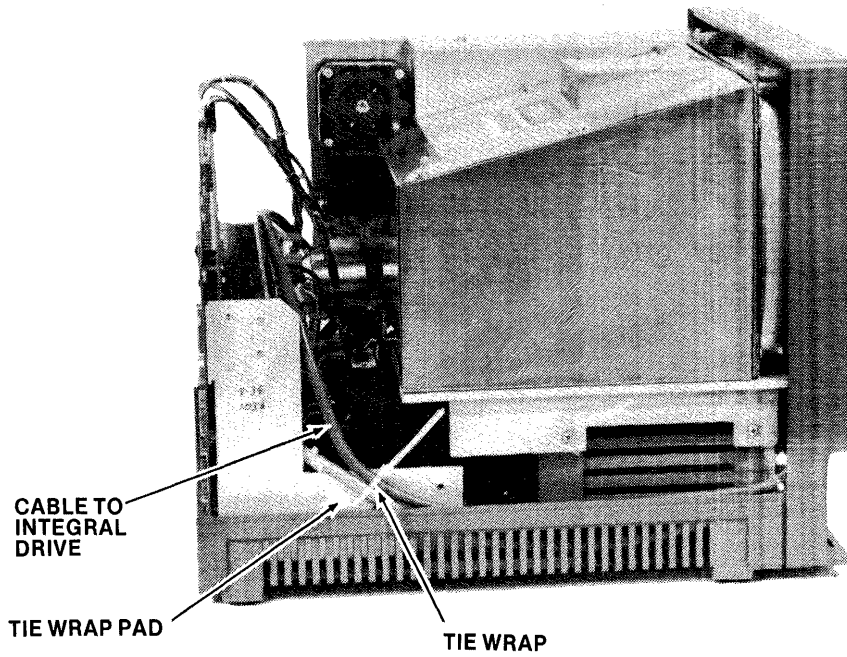
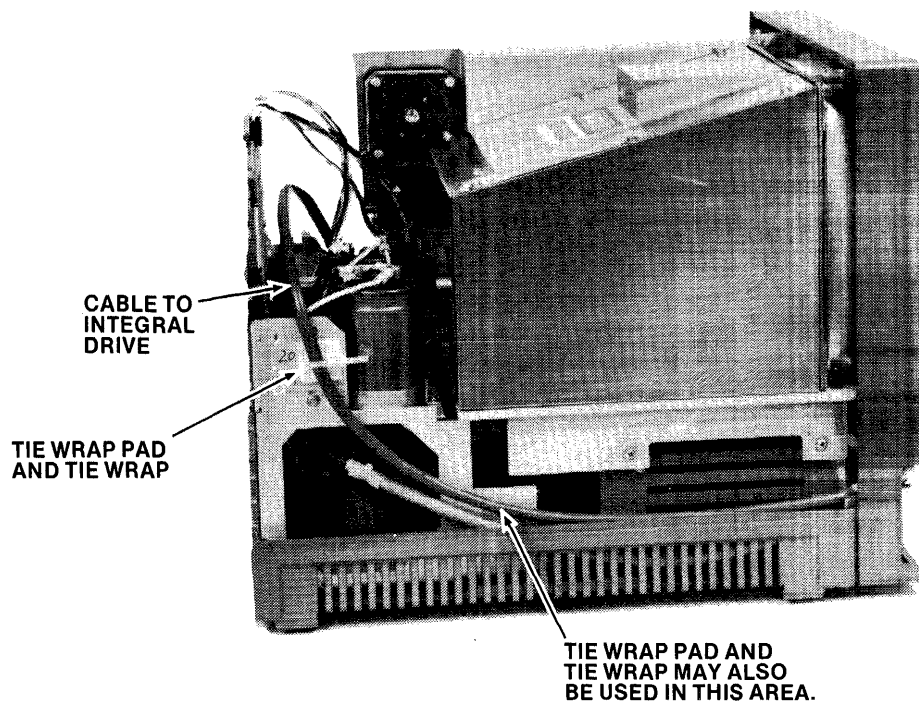

Figure 6. Path for Resulting Cable Through Power-1 Power Supply
Figure 7. Path for Routing Cable Through Xentek Power Supply
10. Re-mount the rear panel, feeding P1 of the double density controller cable (and the hard disk controller cable, if there) through the power supply and along the side of the card cage. Feed P2 of the double density controller cable through the power supply, pulling it up and across the rear of the CRT assembly, toward the integral drive. (See figures 6 and 7. Note there are two different types of power supplies used in the Development System. If you are installing the Upgrade Kit in a system with a Hard Disk Drive, see figure 5 for cable routing.)
13. Secure a stick-on tie wrap pad to the side of the power supply as shown in figure 6 or figure 7 depending upon which type of power supply is used in your system. Tie the cables to keep them away from the transformer in the power supply. Check Figure 5 and Figures 6 and 7, and use additional tie wraps as required. If you are installing the Upgrade Kit in a system with a Hard Disk Drive, secure both controller cables to the tie-wrap pad stuck to the inside of the power supply bracket in step 9. (See Figure 5.)